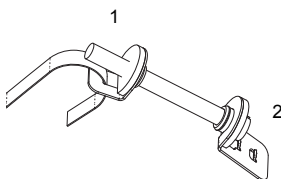

Fig. 9.4: FLEXIM clasp
- Push approx. 2 cm of the tension strap through the slot of the clasp (see Fig. 9.4).